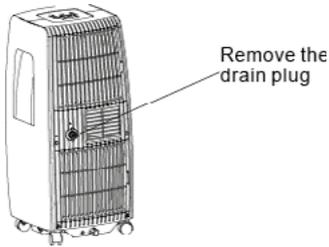

Fig. 6
1. Prepare a hole in the wall. Install the wall Exhaust adaptor A onto the wall(outside) by using 4 expansion plugs and wooden screws, be sure to fix thoroughly. (See Fig.6)